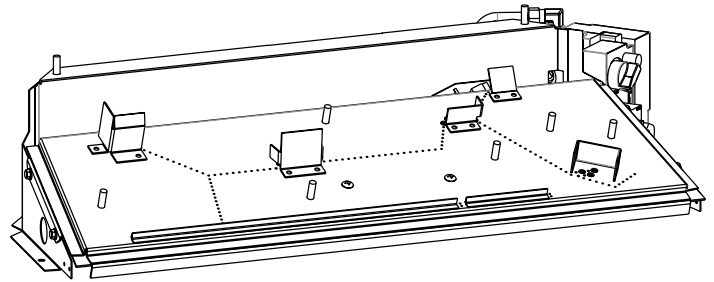

Figure 10
Assembly Procedure: (Figures 10 and 11)
2. An anchor hole is provided in the two bottom side burner support. After centering the burner correctly, mark the hole positions on the fireplace/firebox floor. Drill two (2) 5/32" diameter holes approximately 1-1/2" deep for masonry screws or 1/8" hole for sheet metal screws.
3. Anchor the burner to the fireplace/firebox floor using the screws provided. Refer to **Figure 10**.